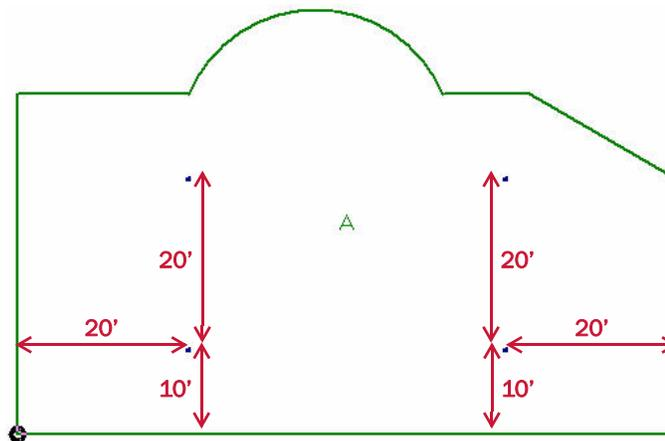

Figure 2-6 Roof B with drains
You'll now add drains to the roof section. You can go ahead and add the drains on your own. Figure 2-6 shows the roof section with four drains.
7. Add two more drains on this side of the roof, as indicated in Figure 2-6.